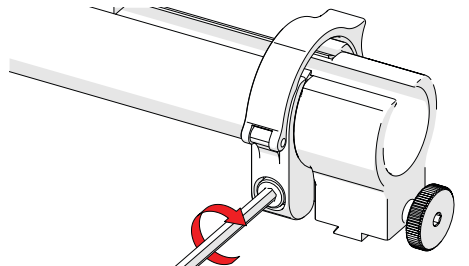

Fig. 59 - Tighten clamp screw
4. Tighten the clamp screw (Fig. 59).